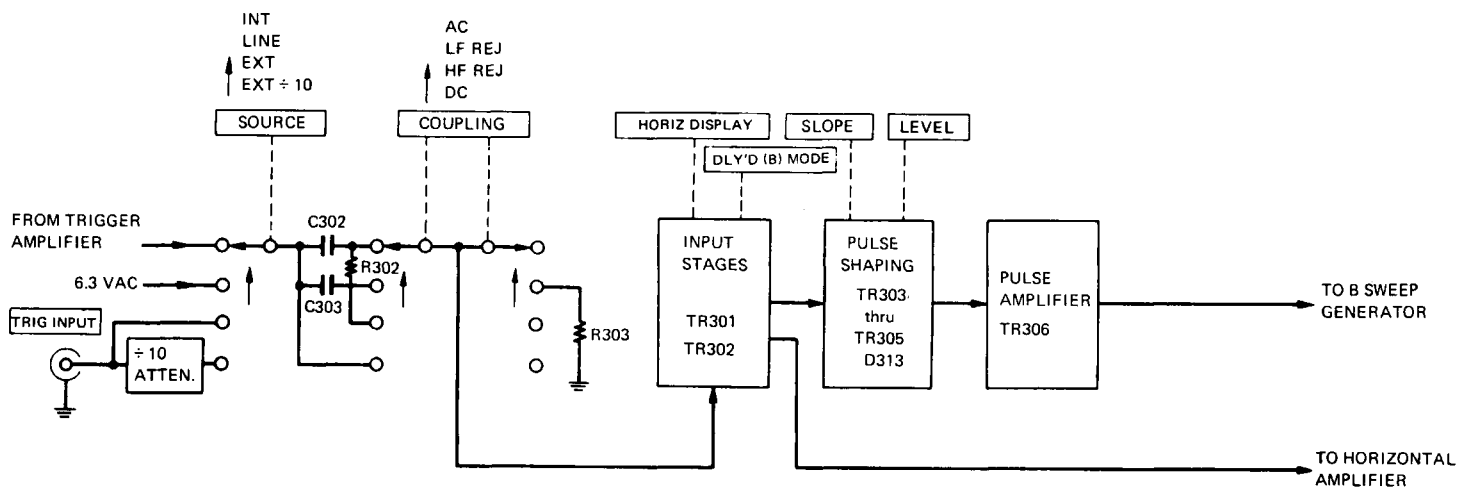

Figure 3-22 Block Diagram B Trigger Generator
**j. B TRIGGER GENERATOR (Schematic 9).** The configuration of the B Trigger Circuit is shown in Figure 3-22. The purpose of this circuit is to produce trigger pulses to drive the B Sweep Generator. The circuit from the TRIG OR HORIZ INPUT connector to the input source follower also functions as an input circuit for horizontal input signals when the instrument is used as an X-Y oscilloscope. The B Trigger Generator consists of a HORIZ DISPLAY switch,